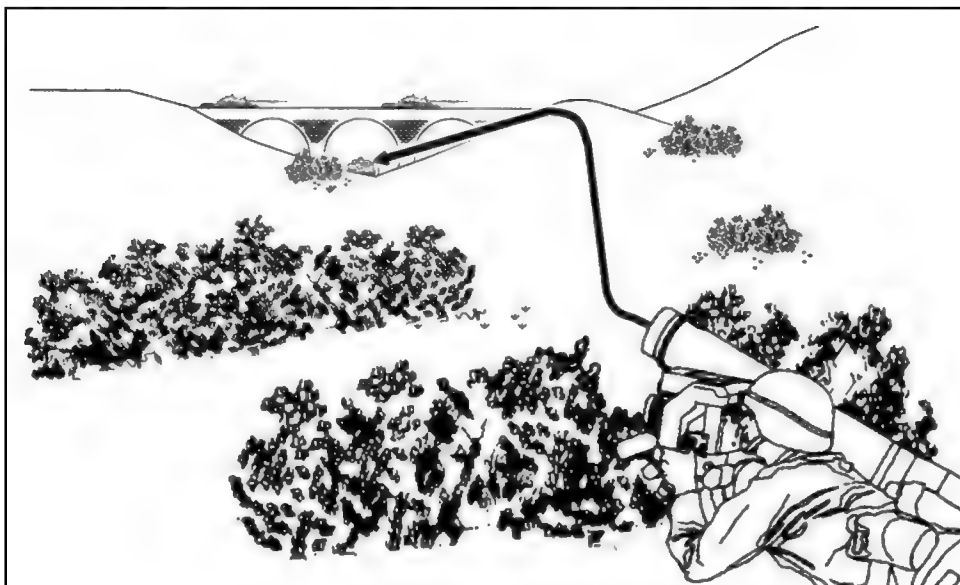

Figure 1-28. Direct attack mode.
(1) The direct attack mode can be selected only after seeker cooldown and before lock-on. The gunner pushes the attack select (ATTK SEL) switch on the right handgrip to change attack modes. In the direct attack mode, the missile flies on a more direct path to the target. The missile impacts and detonates on the side (front, rear, or flank) of the target (Figure 1-28). The minimum engagement distance is 65 meters.